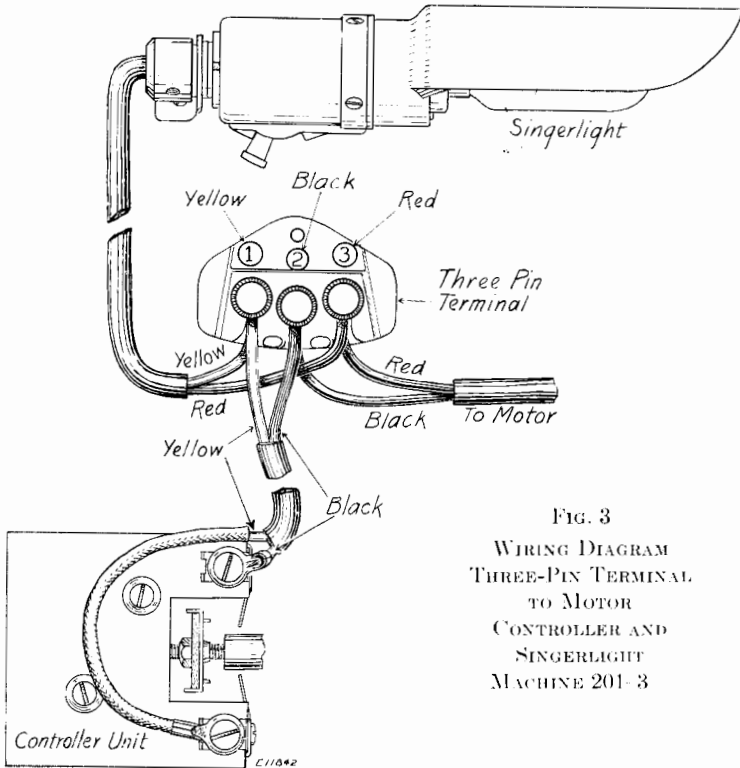

FIG. 3
(SEE FIG. 3, WIRING DIAGRAM)
**Motor Leads**—Fasten the lead with the **red** identification tubing to the **red** pin No. 3, and fasten the lead without identification tubing to the middle pin No. 2, as illustrated in Fig. 3.